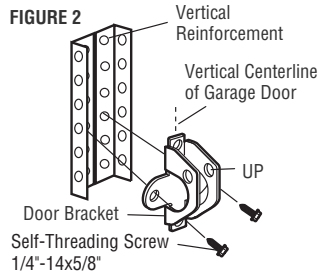

FIGURE 2
- Drill 3/16" fastening holes. Secure the door bracket using the two self threading screws. (Figure 2)